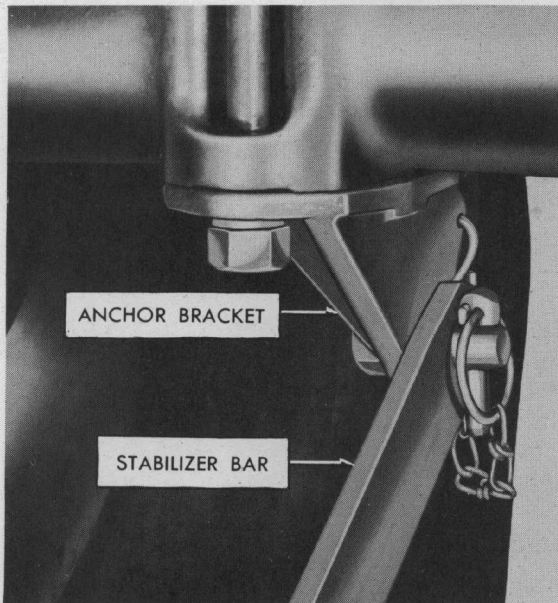
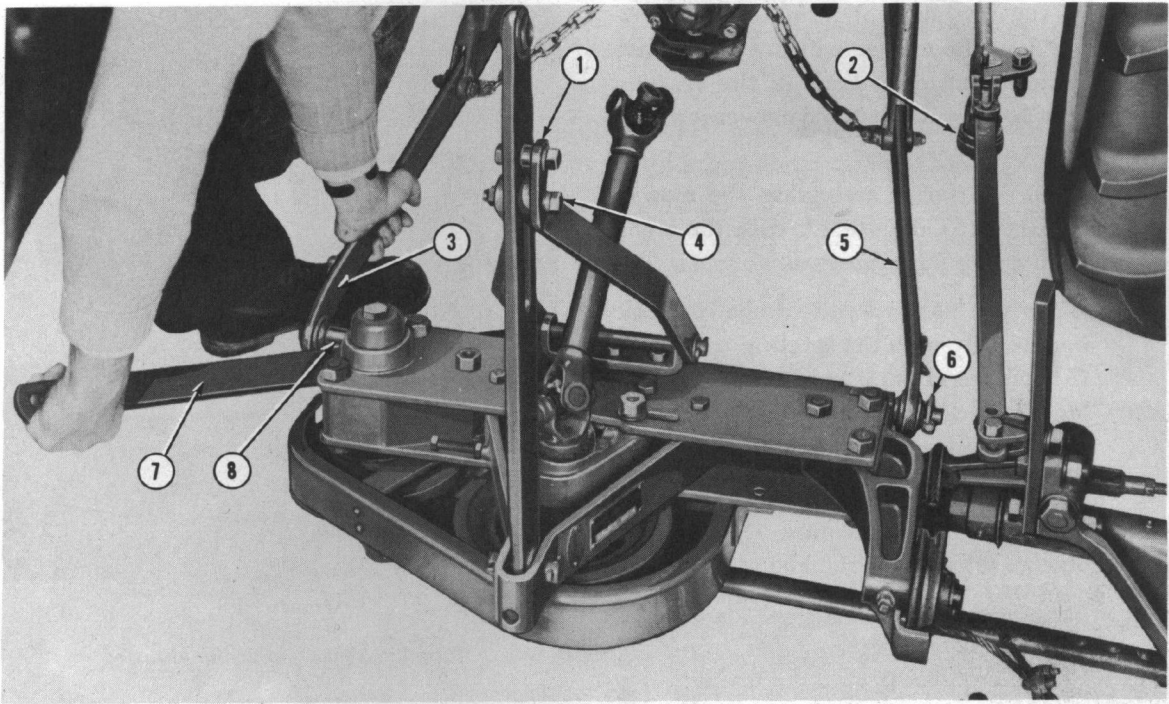

Figure 10
Figure 13
17. Attach the left hand anchor bracket to the tractor rear axle housing with fender bolts as shown in Figure 10.
- a. Position the mower in a cleared area with the safety release housing (2), Figure 13, turned down and the mower main frame tilted back as shown. Lock the anchor strap pin (4) with the transport lock (1).
- b. Back the tractor up to the mower and align the right lower link (5) with the pin (6) by turning the tractor leveling crank. Attach the link and secure with the linch pin provided.
- c. Pry the pin (8), Figure 13, into alignment with the left tractor link (3) using the stabilizer bar (7) as shown, and slip the left tractor link on the pin.
- d. Attach the forward end of the stabilizer bar (7), Figure 13, to the left hand anchor bracket as shown in Figure 10 and secure with the linch pin.
- e. Level the mower main frame with the tractor leveling crank and attach the rear end of the stabilizer bar (7) to the pin (8), Figure 13. Secure with the linch pin provided.